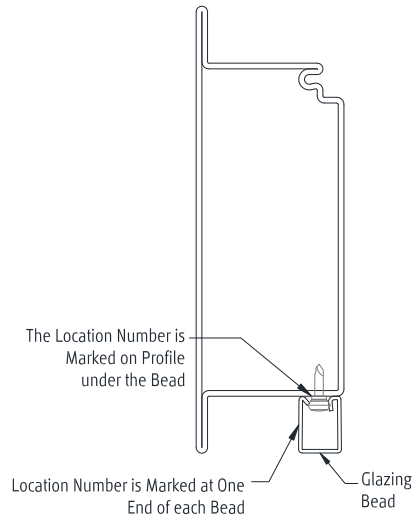

Figure 7 - Bead Locator Mark Location
- The bead locator mark is on the inside of the glazing bead at one end (Figure 7).
- The locator mark on the frame is under the glazing bead (Figure 7).